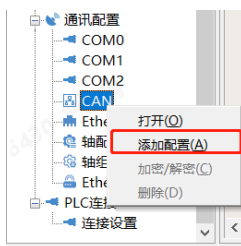

Figure 3-11 Adding CAN configuration
Step 3: Right-click on the CAN option in the previous step and select Add Configuration, as shown in Figure 3-11.